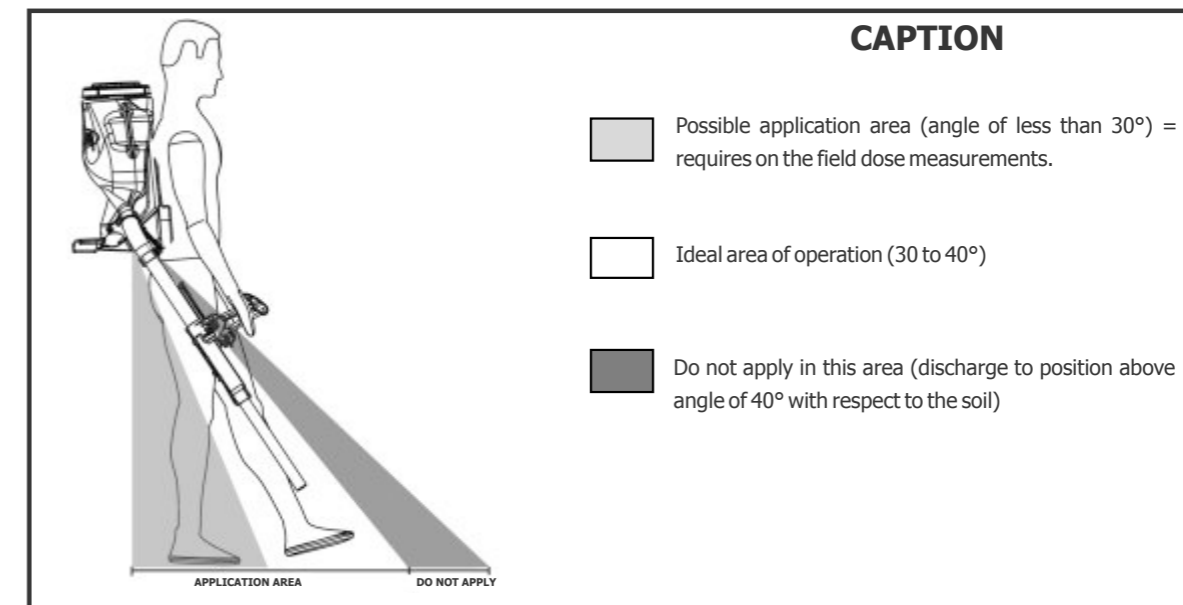

FIGURE 7 Recommended equipment position when using.
- Place the equipment in the operating position in the operator's back and with the discharge to directed downwards (as shown in **Figure 7**) actuate the command trigger pointing to the collection container;
For the correct operation and dosage when using the Guarany Granulated Product Knapsack Applicator, always follow the recommendations in **Figure 7** for the equipment position when using.
**NOTE:** the ideal application area ("POINT OF THE OPERATOR'S NEXT STEP"), corresponds a range of between angles of 30 and 40°; however, the equipment can be used at angles lowered and 30°, as shown in **Figure 7**, but in these cases, we recommend that the operator perform dosage application measuring.
The use of the equipment in conditions other than the ones recommended in **Figure 7**, i.e., with the discharge to position at an angle of more than 40° with respect to the, may result in bad operation and, consequently, in the regular product flow (from the tank to the discharge outlet), inaccurate doses or even, preventing product flow.